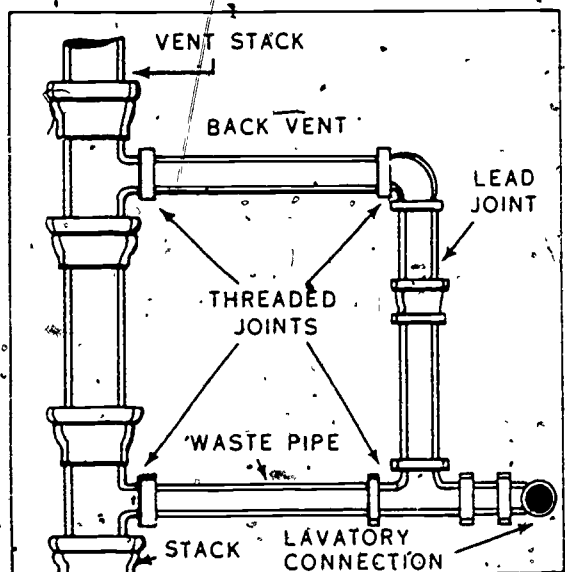

Figure 2-25 Lavatory back-vented
**Back vent.** In most one-story plumbing installations where the lavatory is near the stack, it drains through a waste pipe into the soil or waste stack. The lavatory is then vented into the stack above the drain, as shown in figure 2-25. This is referred to as a back vent